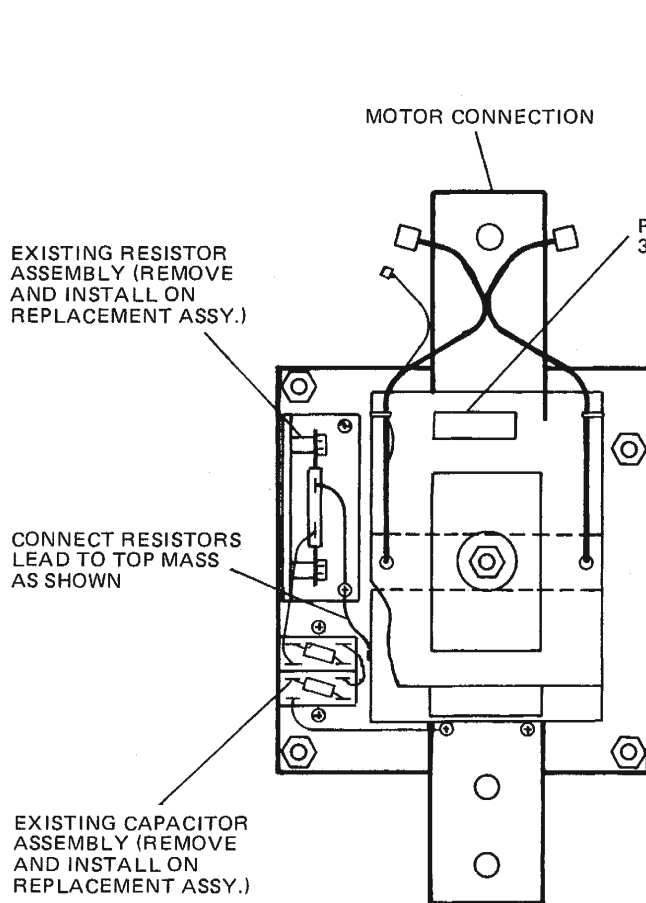

FIG. 18 — 7L / 14L
10. Remove resistor and capacitor assembly from defective SCR assembly and install on new assembly per Fig. 18 and 19, using only one lock washer under each mounting screw. Note connection of resistor and capacitor assembly to SCR assembly.
8. Remove resistor and capacitor assembly from defective SCR assembly and install on replacement SCR assembly. Refer to Fig. 18 & 19.